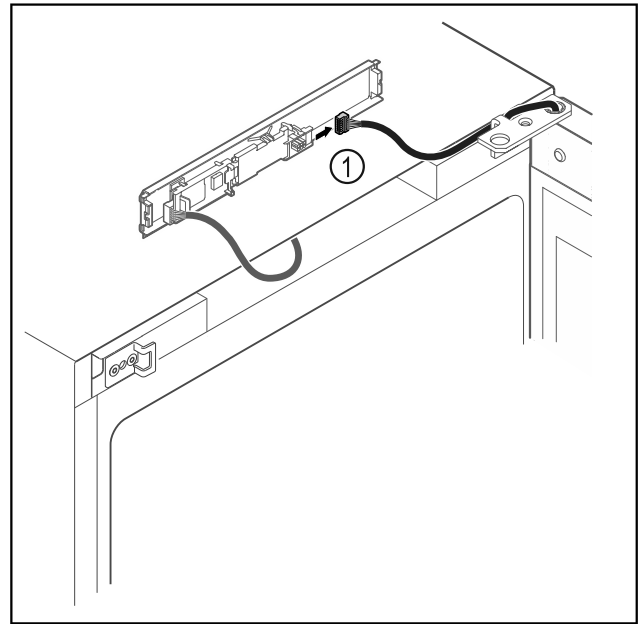

Fig. 20
- Disconnect the plug Fig. 20 (1) from the circuit board.